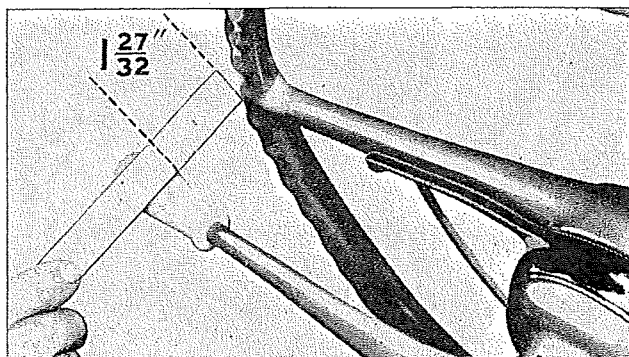

Fig. 16—Chevrolet 1940-42
SELECTOR ROD: (See Fig. 16.) (1)—Loosen check nut on selector rod adjustment. (2)—Pull selector rod forward as far as possible. (3)—Screw the swivel up or down on the rod until the underside of the steering wheel and the top of the shift lever is $1\frac{27}{32}$ ", when the selector rod is connected.